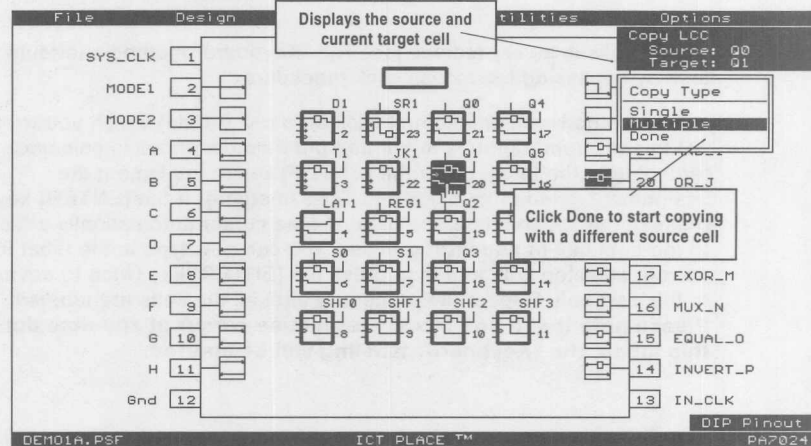

Figure 11-7. Copy Mode
- Copy** Copies the selected LCC's, IOC's or INC's configuration into another cell, but does not copy the equations. Select the "Multiple" option in the Copy Type window for doing multiple copying (Figure 11-7), i.e., copying from one cell into many cells. Select "Done" to complete the current "Multiple" copying set and start another. The only restriction in the "Copy" mode is that the source and target cells must be of the same type, i.e., LCC to LCC, IOC to IOC and INC to INC.